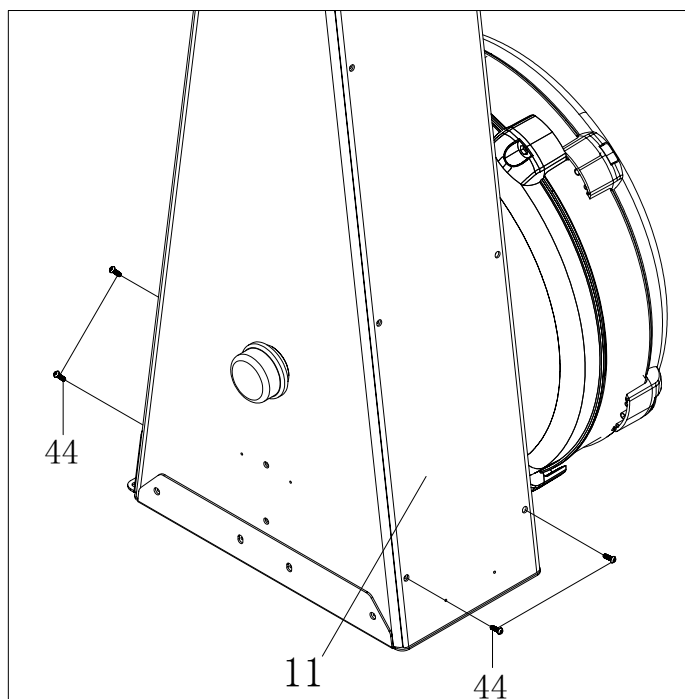

Fig. 5
1. Remove the four preassembled bolts (44) from the main frame (11) (Fig. 5).